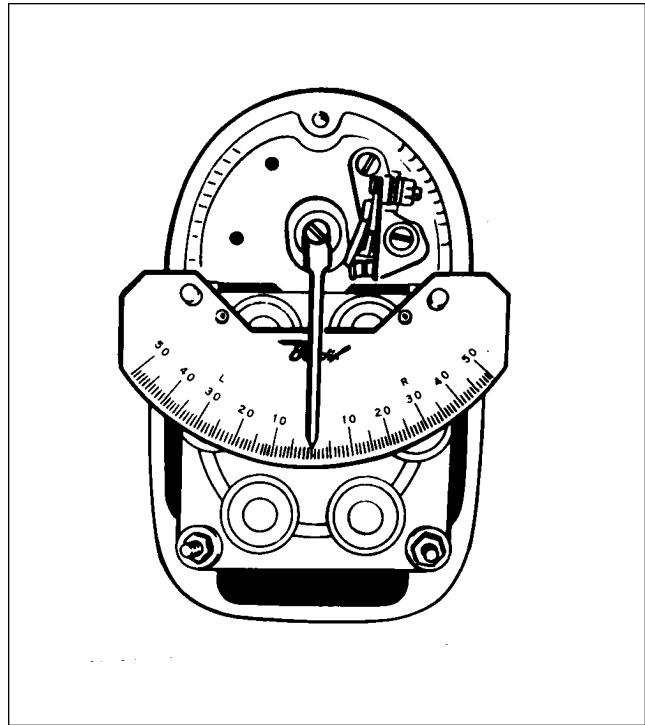

Figure 74-25. Timing Kit Installed
- D. Install the 11-8693 Timing Plate Assembly and the 11-8149 Pointer Assembly of the 11-8150 Scintilla Timing Kit to breaker compartment of magneto. (Refer to Figure 74-25) Align pointer assembly with the 0 mark on timing plate. Loosen adjusting knob of 11-8465 Rotor Holding Tool and turn rotating magnet in normal direction of rotation until pointer indexes with the respective E gap mark ($15^{\circ} \pm 2^{\circ}$). Tighten adjusting knob of 11-8465 Tool and remove the 11-8149 Pointer Assembly from magneto. Using a timing light, adjust contact points to just open. This adjustment shall be made by rotating cam, in opposite direction of rotation until contacts just open. While holding cam in this exact position, push cam on magnet shaft as far as possible with the fingers. Extreme care must be exercised in this operation. If cam adjustment is changed in the slightest degree, the timing of the magneto will be thrown off. Do not drive cam on shaft with a mallet or other instrument. Tighten the securing screw thereby drawing the cam down, evenly and tightly. Torque screw to 16-20 inch-pounds. Loosen the 11-8465 Rotor Holding Tool adjusting knob and return rotating magnet to neutral position. Reinstall the 11-8149 Pointer Assembly over 0 mark on timing plate. Rotate magnet shaft in normal direction of rotation and check for opening of main contact points at E gap setting ($15^{\circ} \pm 2^{\circ}$).